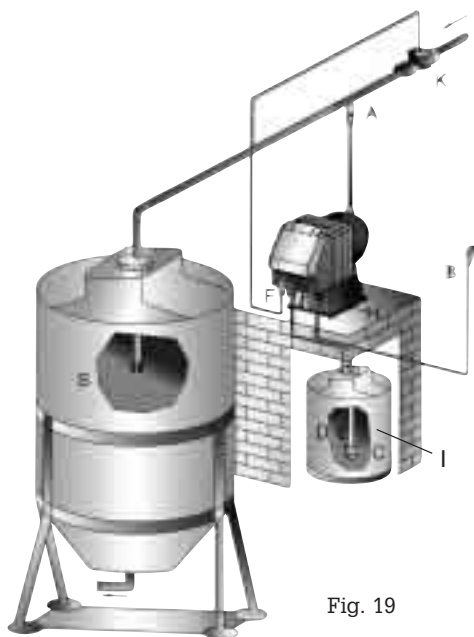

Fig. 19
8.2.2 - SCHEMA DI IMPIANTO TIPICO (Fig. 19)